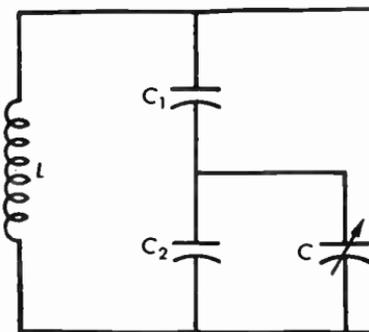

Fig. 8.01 Tank circuit with bandspread capacitor.
8.01 In the tuning circuit of Figure 8.01,  $C_1 = 50$  micromicrofarads,  $C_2 = 25$  micromicrofarads,  $C = 10$  to 100 micromicrofarads,  $L = 50$  microhenries.